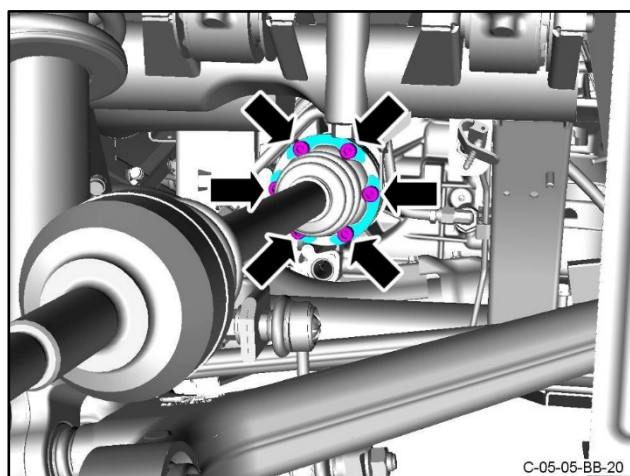

Figure 16
25. Remove and discard the six Allen-head bolts that attach the right drive shaft flange to the transaxle. Collect the three locking plates from the drive shaft flange (refer to Figure 16).